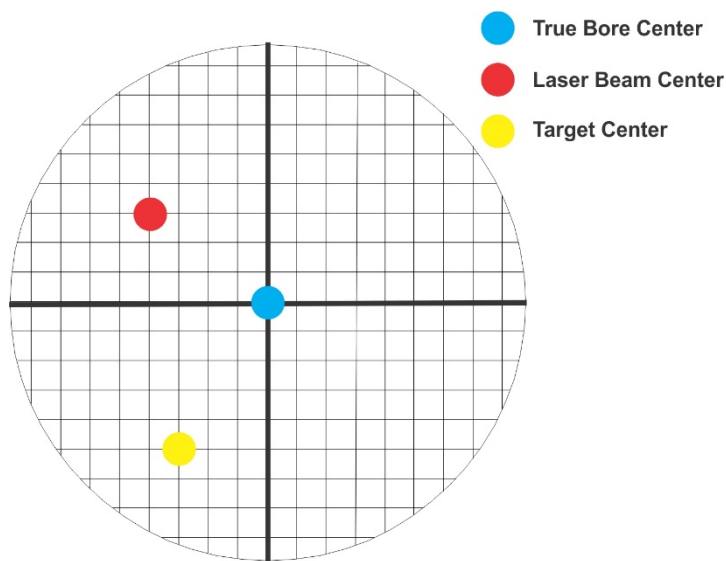

Figure 24 – Target in the INverted position
**Figure 24** represents the target in the INverted position, with the cable *up*. When the target is rotated, the *signs* on the readout are also rotated. Therefore, although the Target Center appears to be to the right of and lower than the Laser Beam Center in **Figure 24**, the vertical readings are positive, and the horizontal readings are negative. When the vertical TCE is calculated, (NORMal+INverted divided by 2) the Target Center is .004 in. higher and .003 in. to the right of the True Bore Center in the NORMal position.